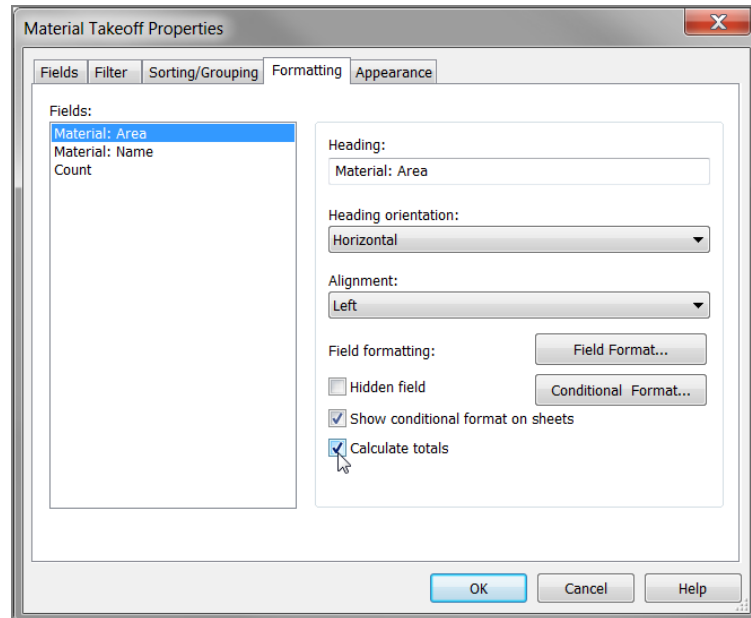

FIGURE 11.29: On the Formatting tab, you can specify Calculate Totals for the Material: Area option.
1. In the Properties dialog, click the Edit button next to the Formatting row to bring up the Material Takeoff Properties dialog, shown in Figure 11.29.
2. In the field to the left, select Material: Area (see Figure 11.29).
3. On the right, select Calculate Totals (see Figure 11.29).